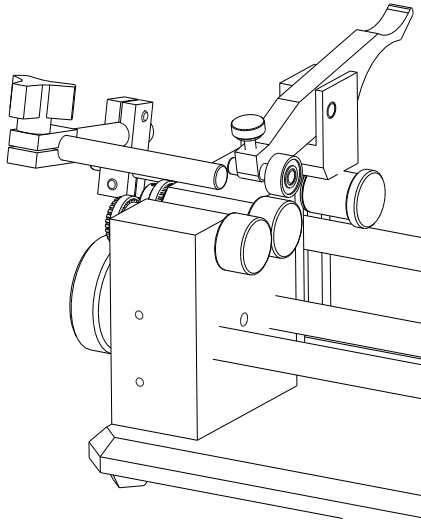

Figure 13. Back Stop Assembly
9.0 Back Stop Set-up – (See Figures 13 and 14)